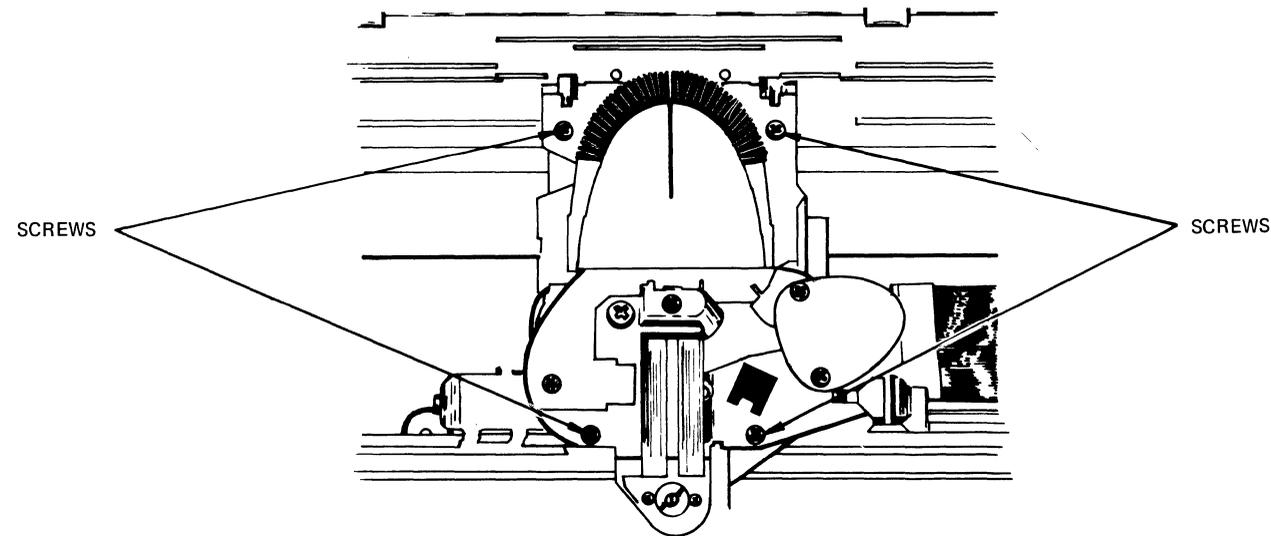

Figure 4-4 Carriage Assembly Removal
- f. Remove the four screws securing the carriage to the lower guide assembly (see Figure 4-4).